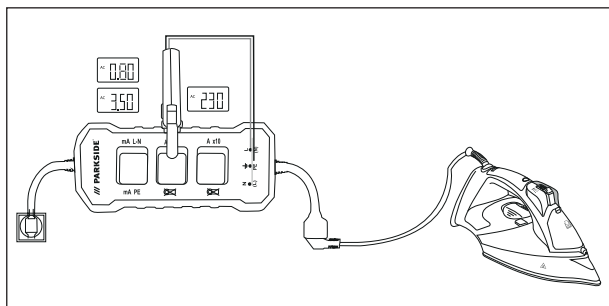

Fig. 3
- 4) Read off the corresponding values for current, voltage and power consumed by the load (see Fig. 3).